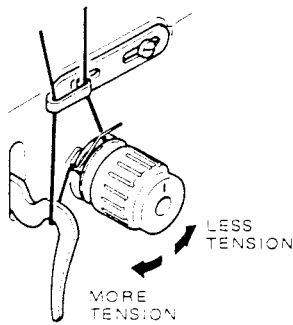

Fig. 30
- Having lowered the presser foot, turn the thumb nut as instructed in Fig. 30.